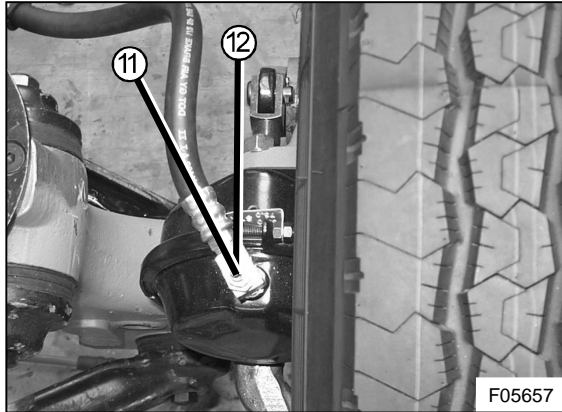

Figure 19: Right hand tee fitting in 11 o' clock position
- 5) Render the hose useless by cutting it in half, and discard it. Thoroughly clean the threads of the brake chamber tee connector and the ABS valve stud connector. Viewed from the top, check that the right hand tee connector points in the 11 o' clock direction (see Figure 19). Adjust if necessary.